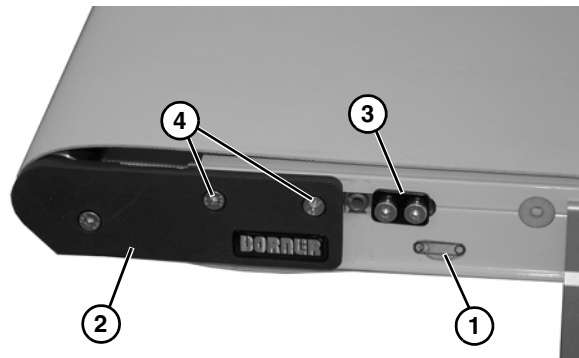

Figure 5
2. On tension end of the conveyor, identified with a  label (**Figure 5, item 1**), push in head plate assembly (**Figure 5, item 2**): On both sides of conveyor, loosen and move cam tracking assemblies (**Figure 5, item 3**) (if equipped) away from head plates, then loosen fastening screws (**Figure 5, item 4**) and push head plate assembly inward.
- If equipped with cam tracking assemblies (**Figure 5, item 3**), adjust belt tracking. Refer to “Conveyor Belt Tracking” on page 19.